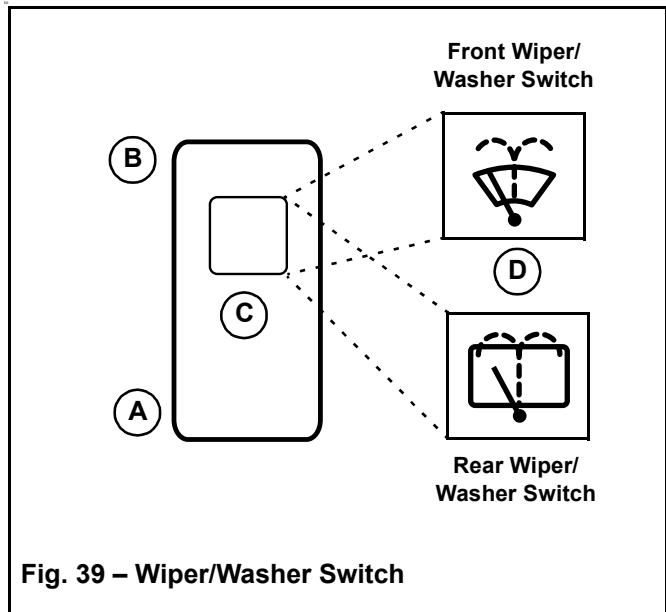

Fig. 39 – Wiper/Washer Switch
Press bottom (A, Fig 39) of wiper switch (C) to activate the wipers. Press and release top (B) of wiper switch (C) to turn the wipers off.
**NOTE:** Indicator (D) is on when the wipers are activated.